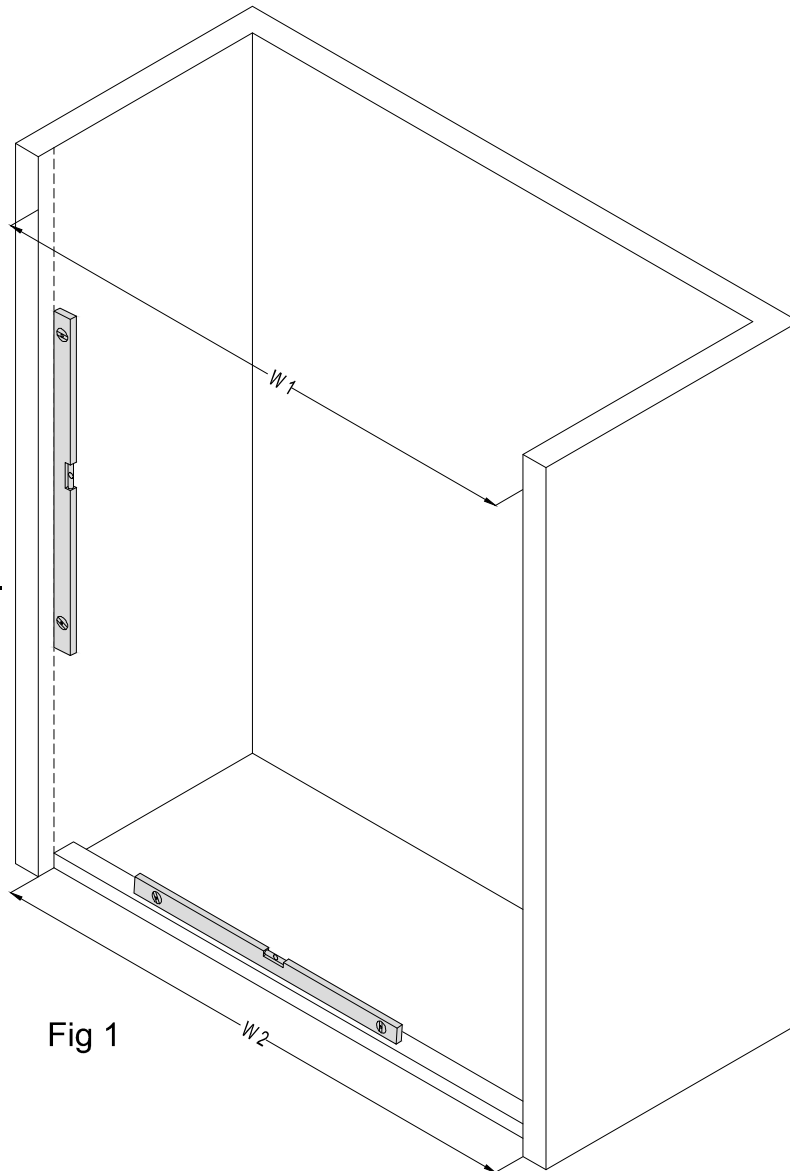

Fig 1
- 2.Also check the threshold for level and the walls for plumb.(Fig 1)